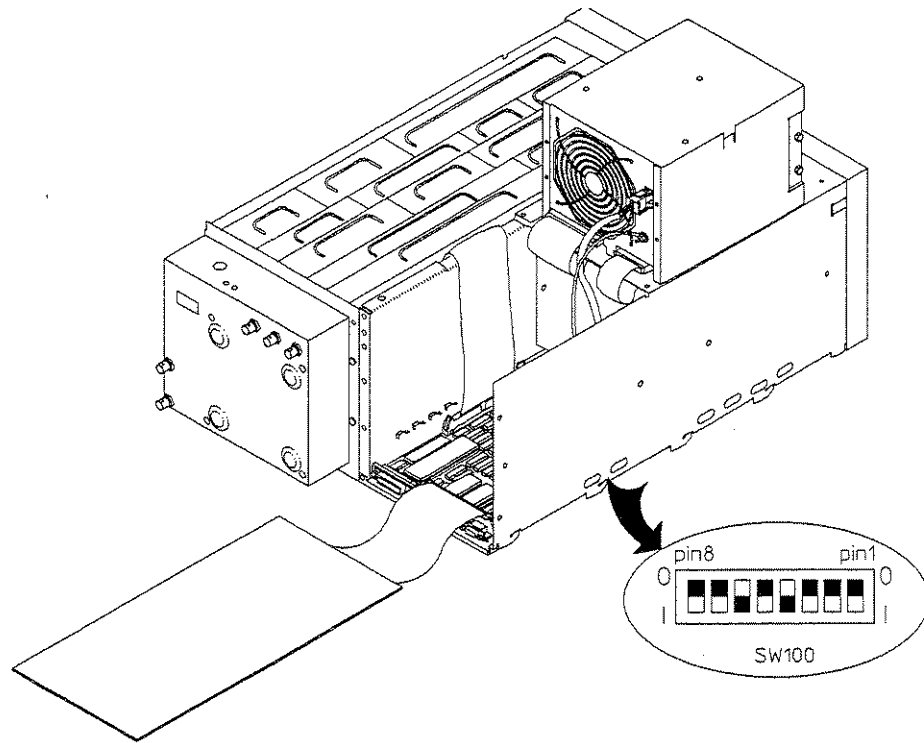

Figure 5-12. Switch Setting for Fast Bus Test
2. On the CPU assembly, set SW100 pin 6 to one (see figure 5-12).
3. Set the power switch to ON (I). The screen displays Fast Bus Diagnostic Test Also the power-on test LEDs alternately flash hexadecimal AA (DS707, DS705, DS703, and DS701 are on) and hexadecimal 55 (DS706, DS704, DS702, and DS700 are on). If the analyzer did not respond correctly, the CPU assembly is probably faulty.